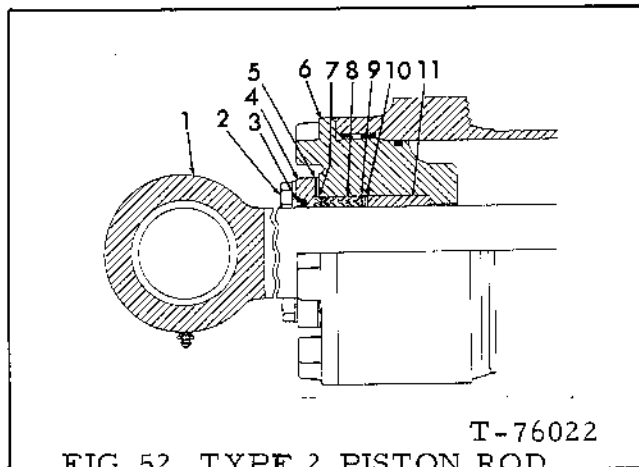
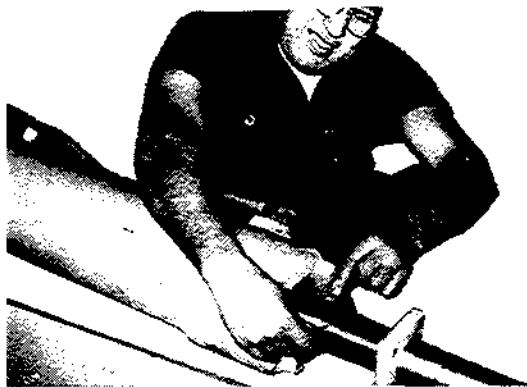

FIG. 52 TYPE 2 PISTON ROD
FIG. 53 REMOVING TYPE 2
NOTE: The rod packing set, contained in the cylinder head, Fig. 52, consists of a set of multi-lip packing rings, a wave spring, and a back-up washer. The packing is properly adjusted when
Relieve hydraulic pressure. Refer to Fig. 52 and remove capscrews (2) securing end plate (4). Slide the end plate down the piston rod and remove one shim (5) Fig. 53.